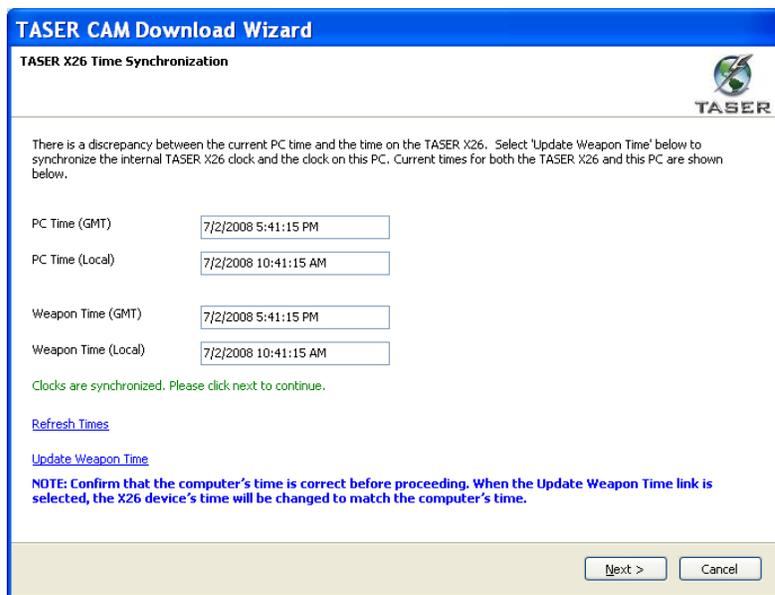

Figure 18
10. When the time is correct, click **Next** (Figure 18).